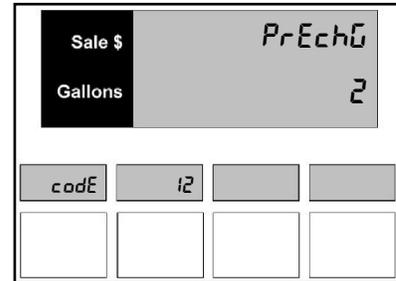

Figure 12.1 – Pre-Charge Time
1. Press the number **1** and **2**, then the **Mode** button on the keypad. The PPV display shows the dispenser is in Menu Code 12 as shown in *Figure 12.1*. If the dispenser has not been programmed since it came from the factory, the number 2 appears in the main display. This is the two second default setting.